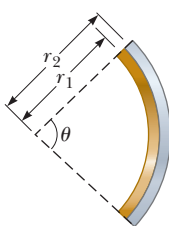

Figure P19.60
- 60.** A bimetallic strip of length  $L$  is made of two ribbons of different metals bonded together. (a) First assume the strip is originally straight. As the strip is warmed, the metal with the greater average coefficient of expansion expands more than the other, forcing the strip into an arc with the outer radius having a greater circumference (Fig. P19.60). Derive an expression for the angle of bending  $\theta$  as a function of the initial length of the strips, their average coefficients of linear expansion, the change in temperature, and the separation of the centers of the strips ( $\Delta r = r_2 - r_1$ ). (b) Show that the angle of bending decreases to zero when  $\Delta T$  decreases to zero and also when the two average coefficients of expansion become equal. (c) **What If?** What happens if the strip is cooled?